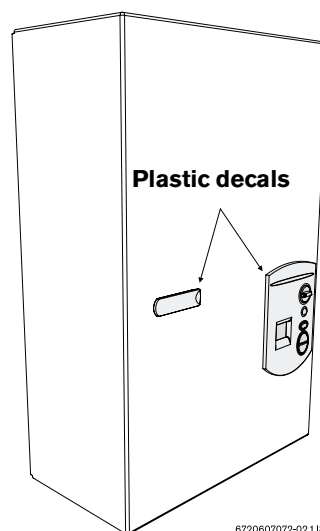

Fig. 4 Remove front cover
- Plastic decal shields for covering front cover screws and control panel, installer should affix these decals to the front of the unit after installation is complete. See Fig. 4
- Loosen the two Philips head screws located on front panel (beneath plastic decal shields if they are already attached, see Fig. 4)